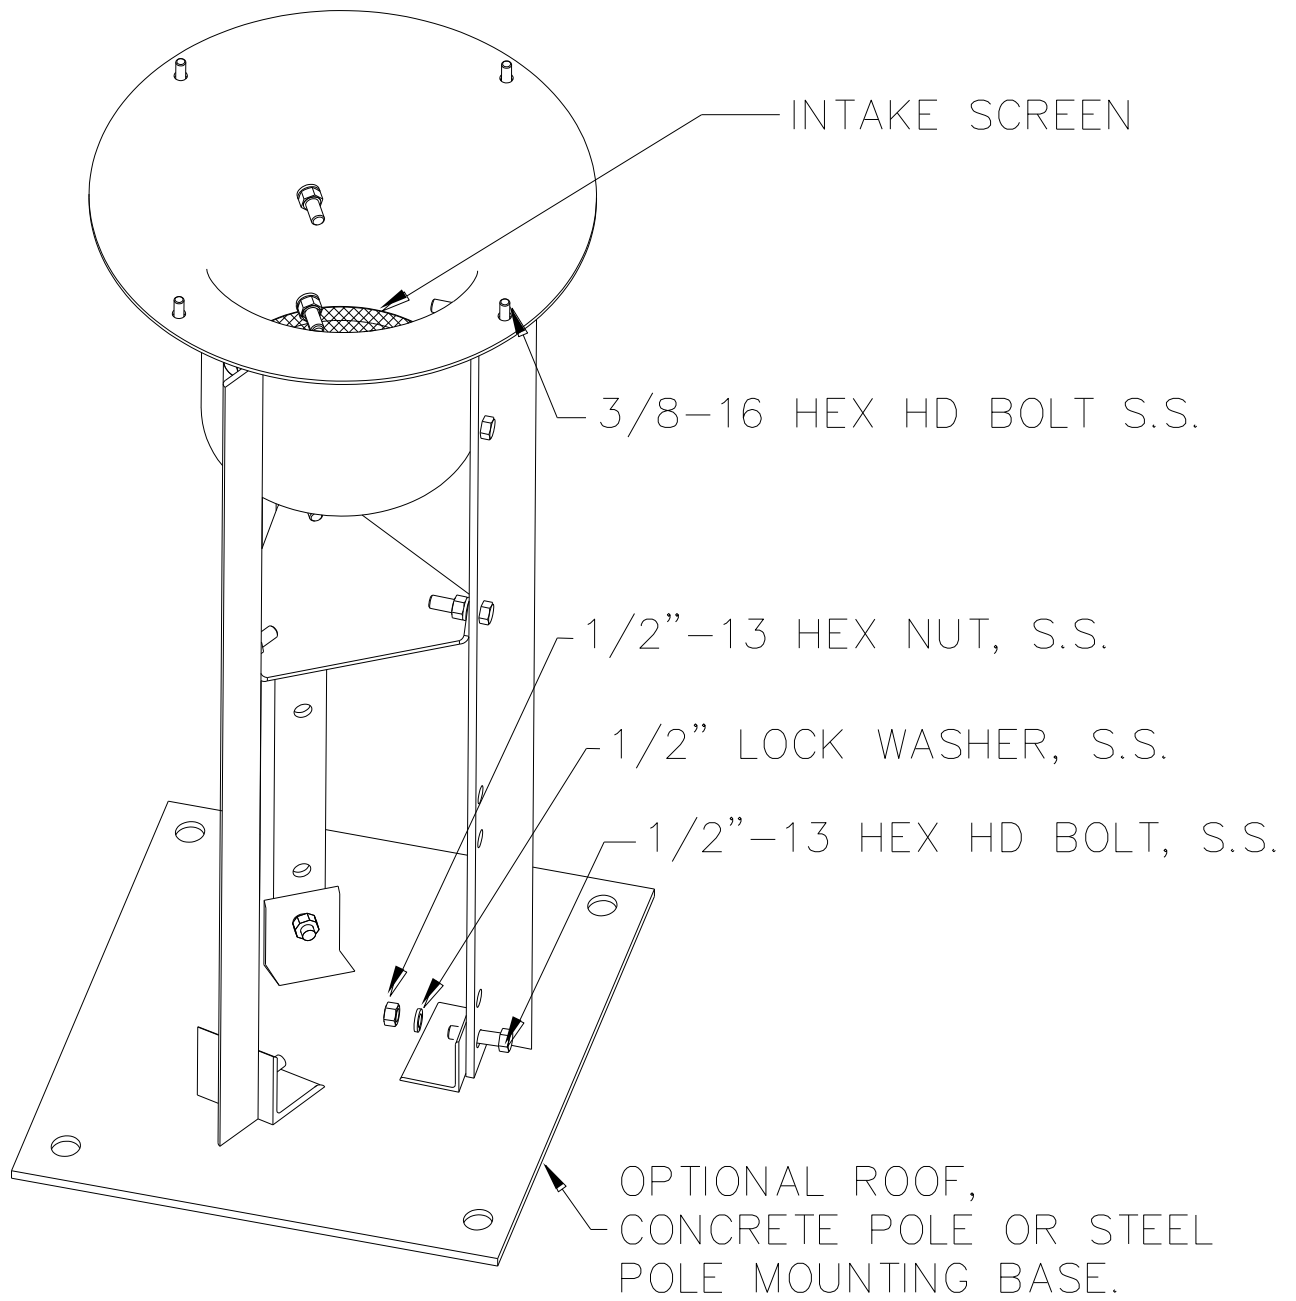
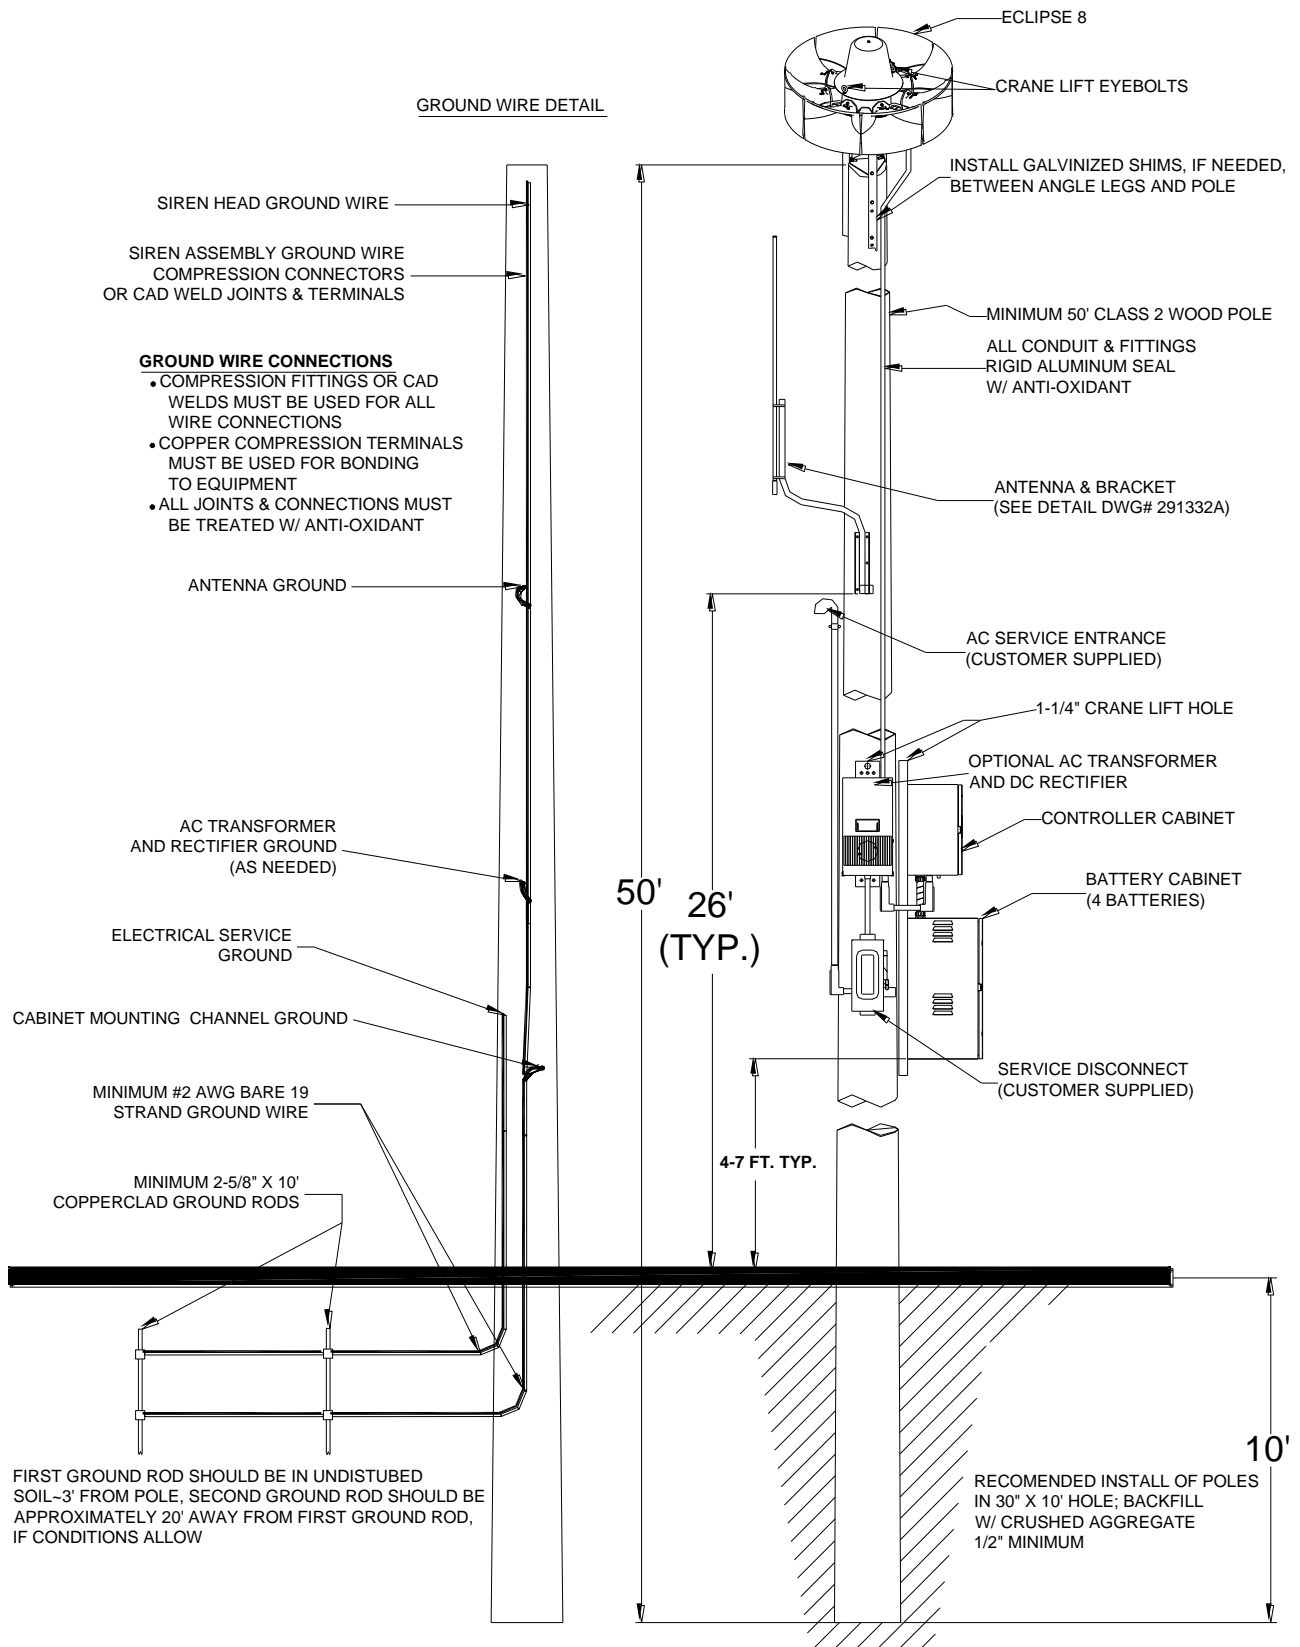

Figure 3-1. Siren Leg Assembly.
Figure 3-2. Typical Pole-mounted Installation
A typical siren pole-mounted installation is shown in figure 3-2. The siren is mounted on a Class 2 utility pole at least 40 feet above the ground. It is attached to the pole by means of legs, as shown in figure 3-1.
4. Install the siren grounding as shown in figure 3-2.